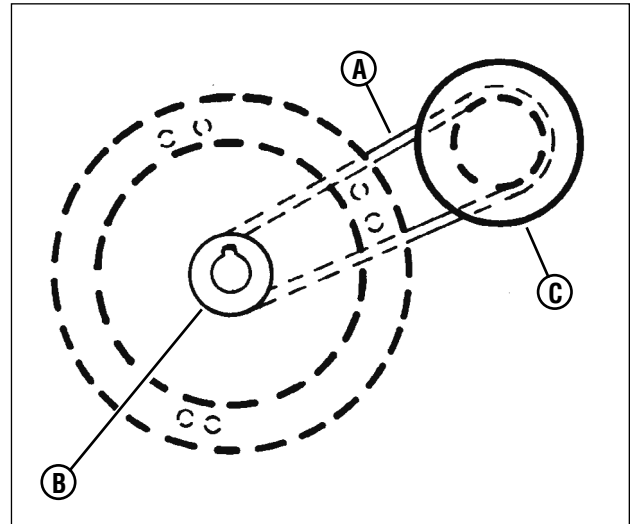

Figure 35: Engine drive belt routing
On self-propelled mowers, the engine belt (A, Figure 35) transmits power from the engine pulley (B) to the drive disc (C). The drive disc powers the poly-v belt, which engages the transmission that powers the rear wheels. Should these belts become worn, they could cause slippage, which would impair mower performance. The condition of the engine belt and poly-v belt should be checked after every 25 hours of mower operation.
2. Note the belt routing (Figure 35). There is no idler pulley on these models to disconnect.